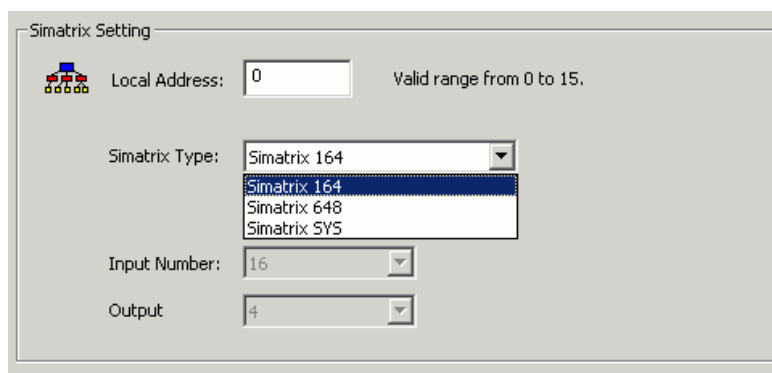

Fig 12 Selecting SIMATRIX type
2. In the Node tab form (Fig 12), set the 'Local Address'.